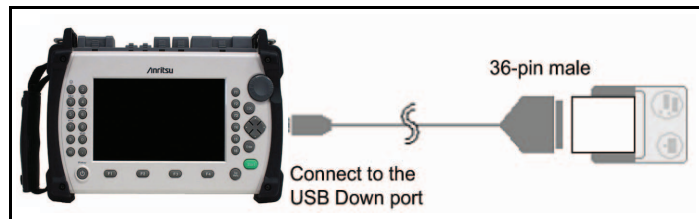

Figure 9-10: Connecting the BL-80R11 Printer
1. Connect the BL-80R11 printer to the MT9083 Series as shown in Figure 9-10, and then power up the printer.